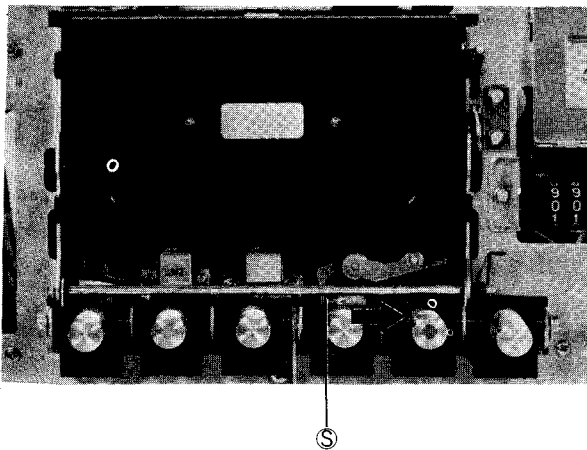

Fig. 24
(Remove shaft ⑤ in Fig. 24 with sliding it to the arrow direction)